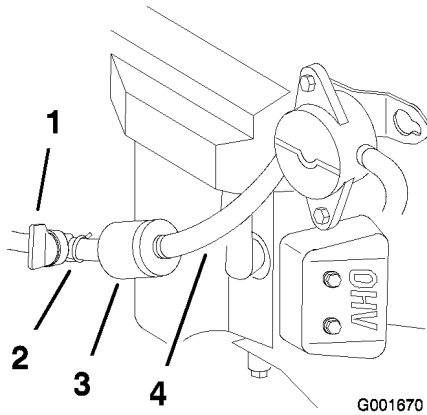

Figure 35
5. Close the fuel shutoff valve (Figure 35).
6. Squeeze the ends of the hose clamps together and slide them away from the filter (Figure 35).
8. Install a new filter and move the hose clamps close to the filter (Figure 35).
3. Close the fuel shutoff valve (Figure 35).
4. Loosen the hose clamp at the fuel filter and slide it up the fuel line away from the fuel filter (Figure 35).
5. Disconnect the fuel line from the fuel filter (Figure 35).
Note: Allow gasoline to drain into a fuel container can or drain pan (Figure 35).
7. Install the fuel line onto the fuel filter. Slide the hose clamp close to the fuel filter to secure the fuel line (Figure 35).